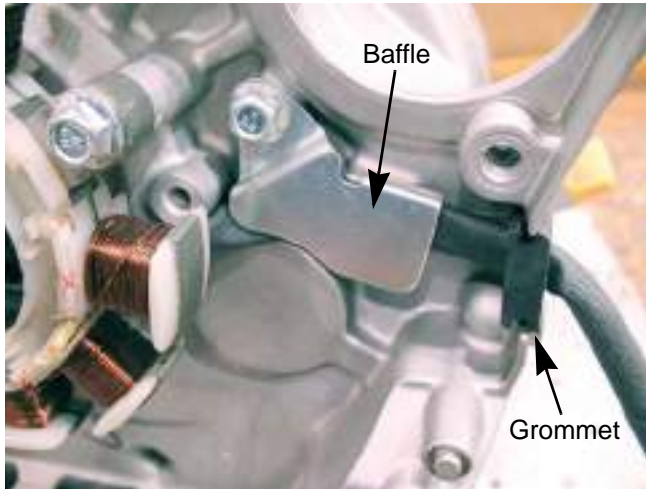

Figure 6.19
3. Remove the baffle that covers the charger harness using a 10mm wrench. See Figure 6.19.
4. Slide the grommet out of the engine block. See Figure 6.19.